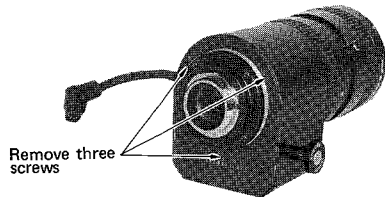

Fig. 5
- Remove three screws which hold the iris back cover and remove the iris back cover. (Fig. 5)